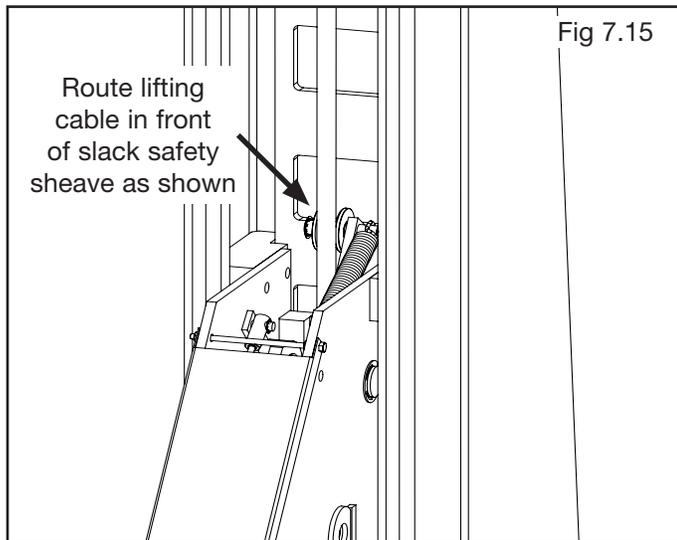

Fig 7.15
8. Route the cable ends through the ends of each cross-tube, over the SLACK SAFETY SHEAVE then to the top of each column. Secure using the M18 hex nuts and flat washers. Tighten each nut until there is at least 3/4" of threading protruding through the top of the nut. The cables will remain loose until start up and final cable adjustments are made. (See Fig. 7.15 - 7.16)